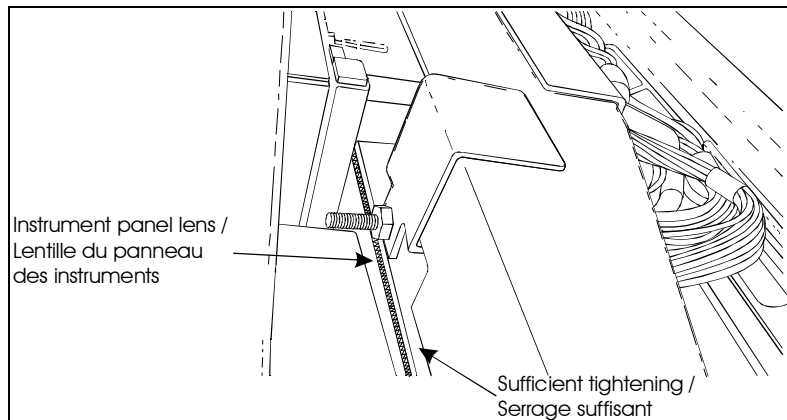

FIGURE 5
Note : *The instrument panel supports may be lowered from 1mm to 2mm maximum if, after tightening, the lens does not clear the housing (figure 5).*
3. Bring back the top of the instrument cluster, insert the screws and tighten the nuts until the instrument cluster rests against the housing (figure 5).